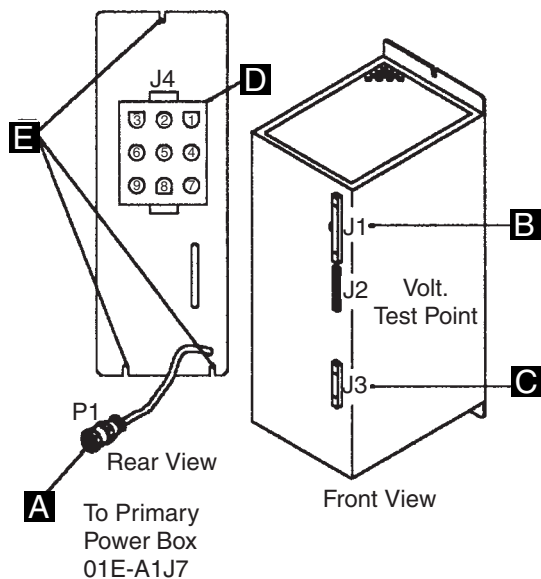

Figure 4-41. PS Type 2
- c. Using Table 4-22 on page 4-60, measure the voltages on the FDD connector (J2). If the voltages are not within tolerance or are missing, check the voltage test points of the PS type 2. Refer to Figure 4-41 on page 4-60. If that is incorrect, exchange the PS type 2.
- c. Using Table 4-23 on page 4-64, measure the voltages on the HDD connector (J3). If the voltages are not within tolerance or are missing, check the voltage test points of the PS type 2. Refer to Figure 4-41 on page 4-60. If they are incorrect, exchange the PS type 2.